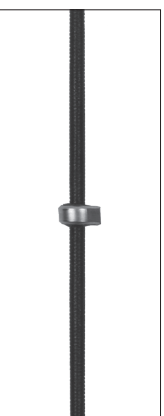

FIGURE 6
- Brass nocks are easily installed and easy to move. Crimp the brass nock point just enough to keep it in place until you locate you're desired nock point. Once you have the nock location set correctly firmly crimp the nock in place. (Fig. 6)